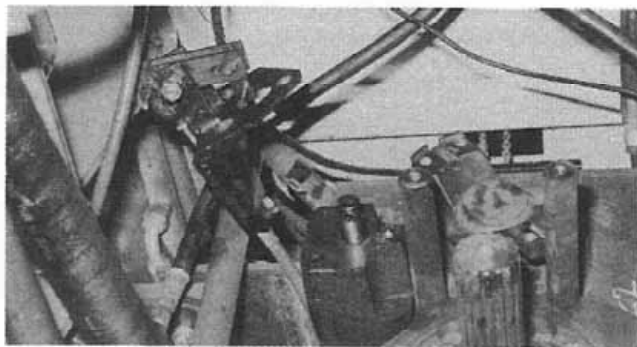

Figure 9:
12. Mount the shift cable and bracket assembly on the detent block and connect the linkage to the shift rod (Fig. 9). Ensure correct shift cable adjustment and operation so that the sliding clutch and selective gears mesh fully in each range.